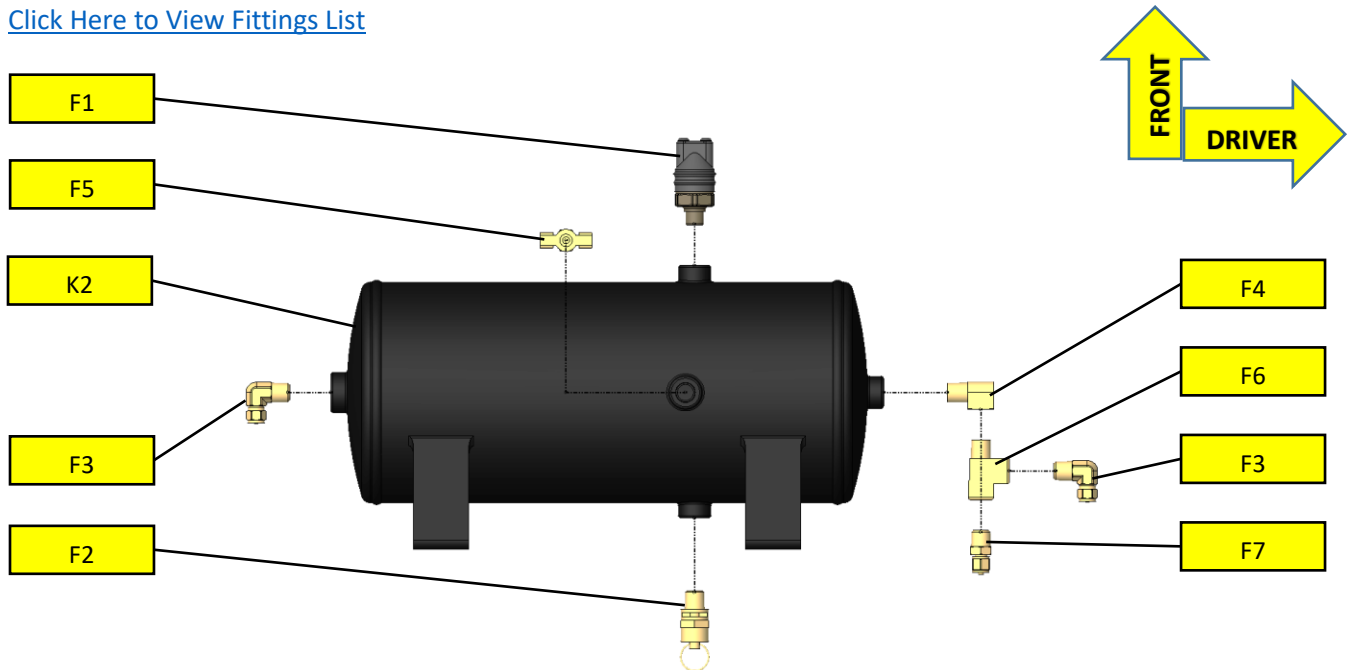

Figure 4 – Air Fittings installed on Air Tank (Top Exploded view, as shown resting on bench)
- 9.9.3. Use supplied #F10 Air Tubing, Bracket, Fittings, and Hardware and attach Tubing to port shown in Figure 4 above. Some example locations include under hood, on, or below front/rear bumper, etc.